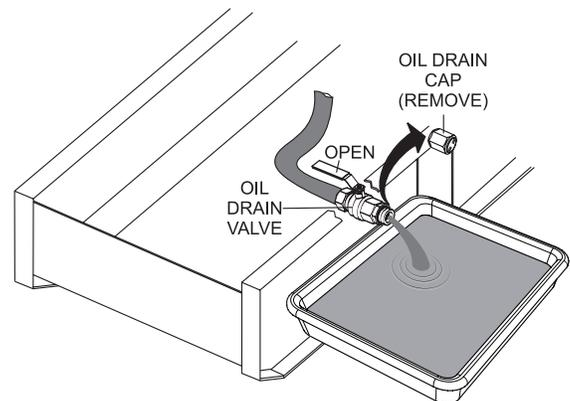

Figure 43. Draining Engine Oil
4. Remove the **oil drain cap** (Figure 43).
- Place the **oil drain valve** in the open position (Figure 43) and allow the oil to drain into a suitable container.